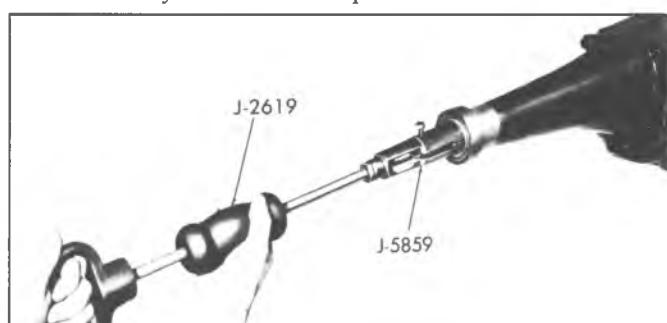

Fig. 27—Removing Mainshaft Rear Oil Seal
- b. Pry seal out of extension housing or remove oil seal using oil seal remover (J-5859) and slide hammer (J-2619) as shown in Figure 27.